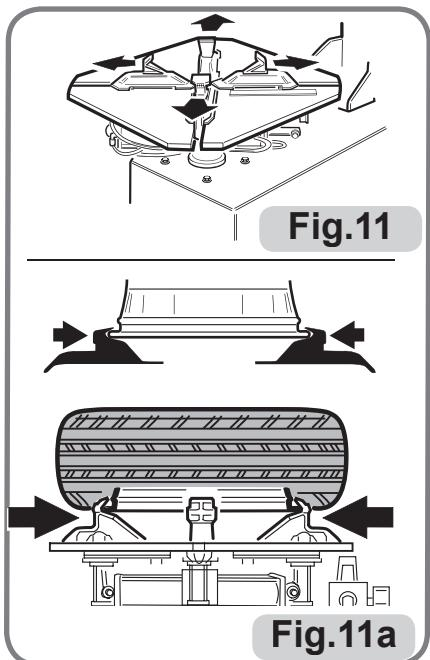
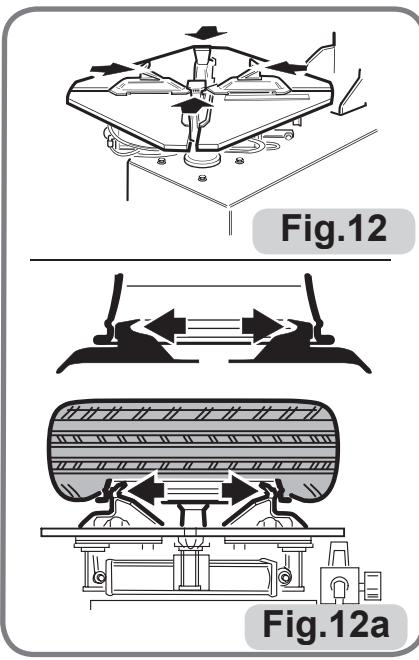

Fig.11
Fig.12
- For AS 914 T.I. depress pedal (10) to bring the sliding clamps to the outside of the table (Fig.11) if you wish to clamp the rim on the outside as shown in Figure 11a (recommended for alloy rims); alternatively, keep pedal (10) depressed to bring the sliding clamps to the centre of the table (Fig.12) if you wish to clamp the rim on the inside (Fig.12a-12c).